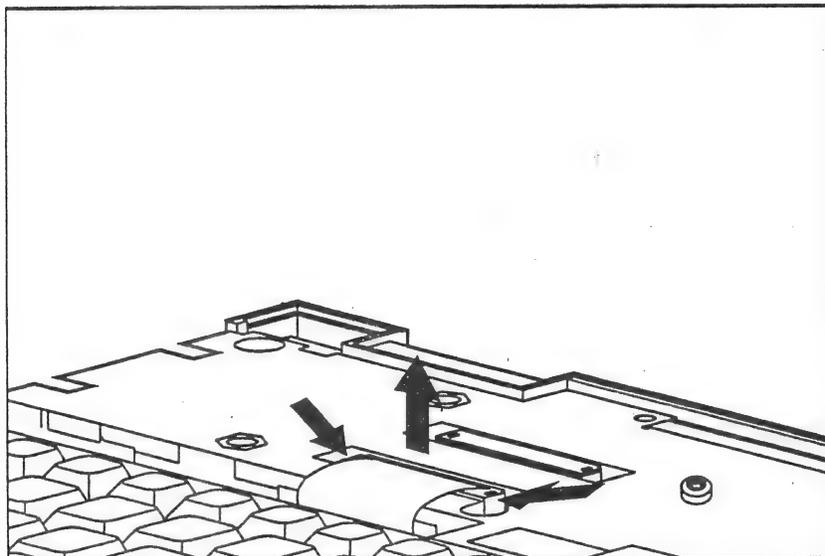

Figure 2-44. Removing the Keyboard Cable
2. Using the case utility tool, carefully lift up on the ZIF connector to release the cable; then disconnect the keyboard cable from the system module (Figure 2-44).